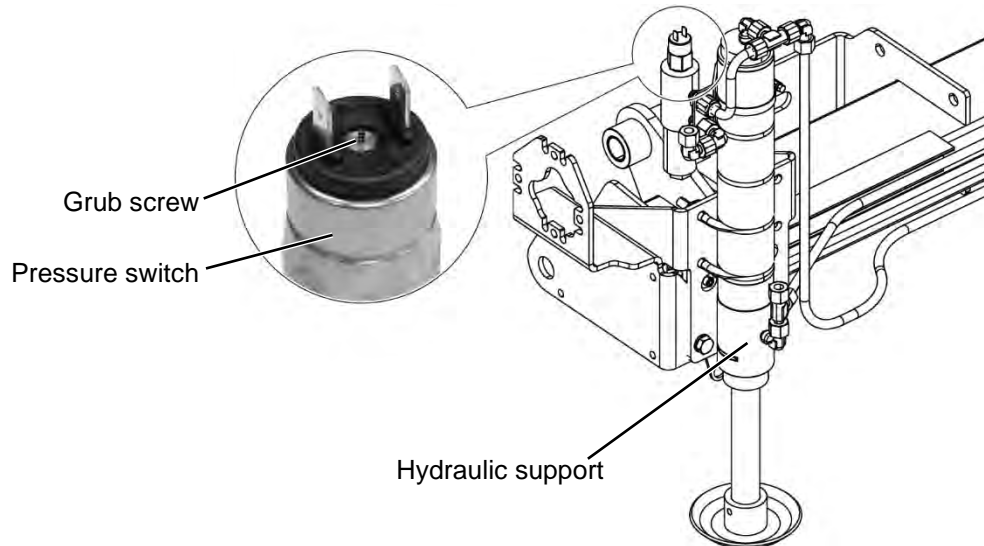

Figure 51: Hydraulic support, pressure switch
- For this purpose, turn the grub screw on the pressure switch (see Figure 51).